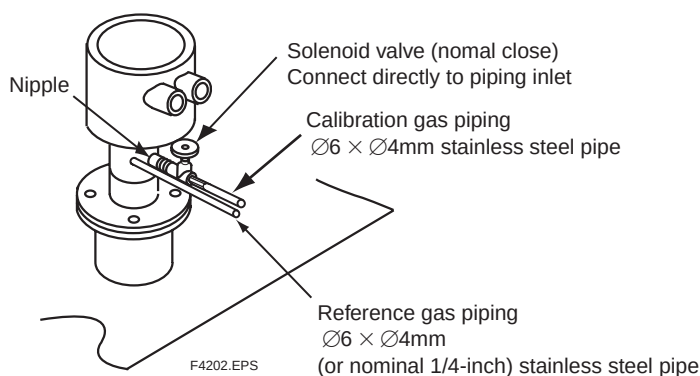

Figure 4.11 Piping for the Calibration Gas Inlet
- Install a normally closed solenoid valve (Yokogawa recommended part) through a nipple (commercially available) on the calibration gas inlet of the detector as shown in Figure 4.11. This solenoid valve is activated by a contact signal from the averaging converter. (Power wiring is separately required.)